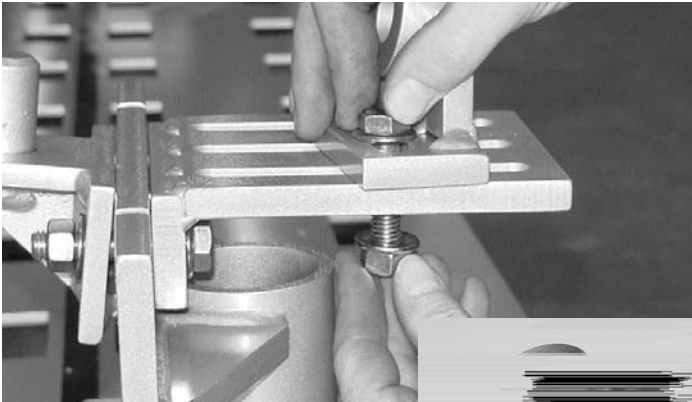

Figure 4
- 5) Attach front rocker pin plate to the large angle support using appropriate size bolts, nuts and washers. Finger tighten only at this time. (See Figure 4.) Figure 4 Inset shows a side view of the front rocker pin plate. Note its symmetrical design.